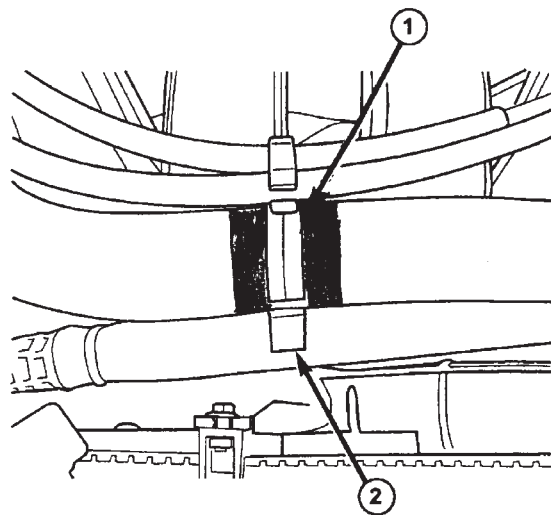

FIGURE 4
8. Install the accelerator cable clip over the center rubber band (Figure 4).